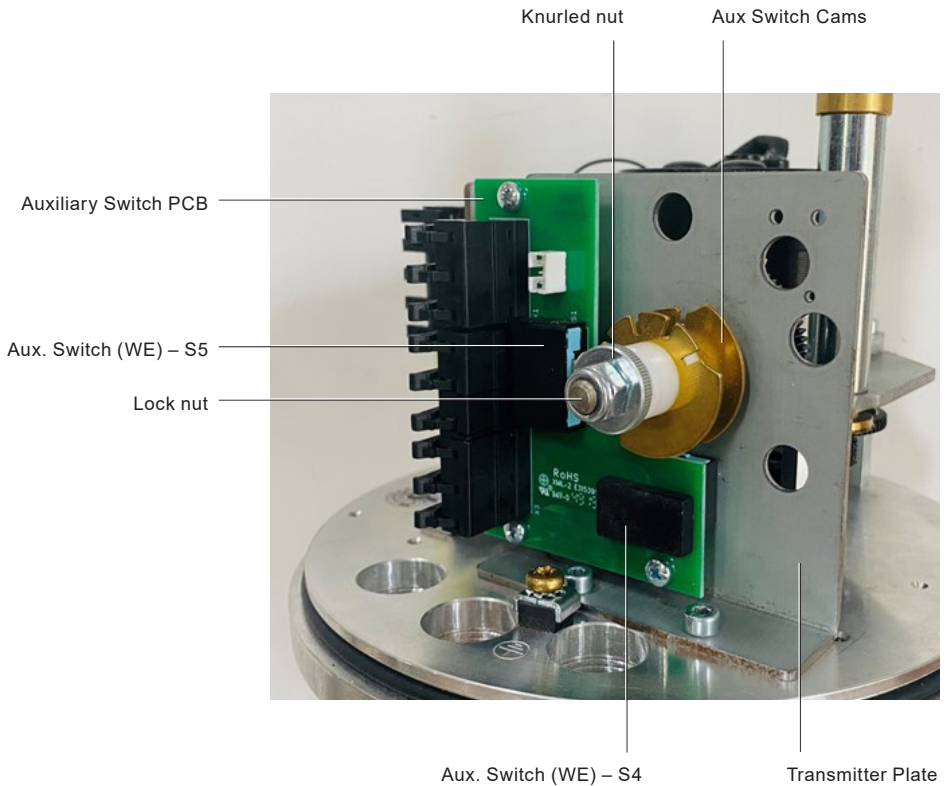

Fig. 9 Auxiliary Travel Switch (WE) Arrangement (1-6 kN)
- Assemble the transmitter plate complete with auxiliary travel switches to the actuator base plate. See Figure 9 "Auxiliary Travel Switch Arrangement (1-6 kN)" for product orientation